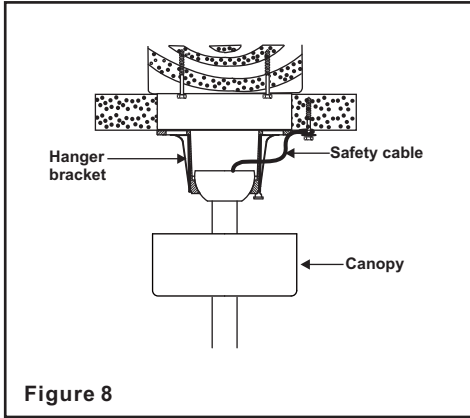

Figure 8
Step 9. Place the downrod ball into the hanger bracket socket. (Fig. 8)
Step 10. Secure the safety cable to the building structure with a wood screw. (wood screw not supplied) (Fig. 8)